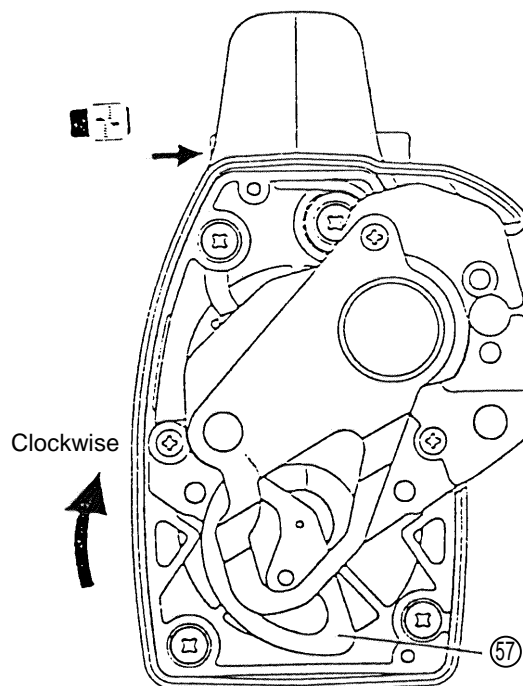

Fig. 23 Direction of Cam Shaft (57) Rotation at the  Position
- (i) Set the Push Button (3) to the  position, and ensure that the Cam Shaft (57) rotates to the right (clockwise), as shown in Fig. 23.
- (ii) Set the Push Button (3) to the  position, and ensure the motor does not rotate even when the switch is pulled.
- (iii) Pull the switch while pushing the Push Button (3) to the  position, and ensure the Cam Shaft (57) rotates to the left (counterclockwise), opposite to the direction indicated in Fig. 23.
- (iv) Ensure the Push Button (3) automatically returns to the  position when it is released.